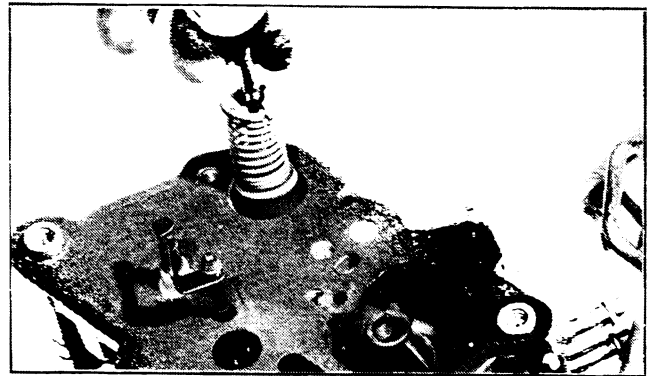

Figure 6C-124
8. Remove power piston assembly using a pair of side cutters and screwdriver as a fulcrum (Fig. 6C-125).